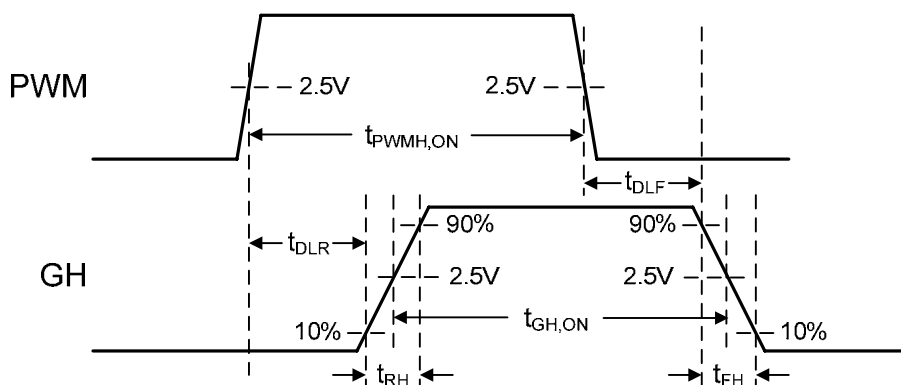

Figure 2. Timing Diagram
2. t_{GH,ON} timing is shown in Figure 2.